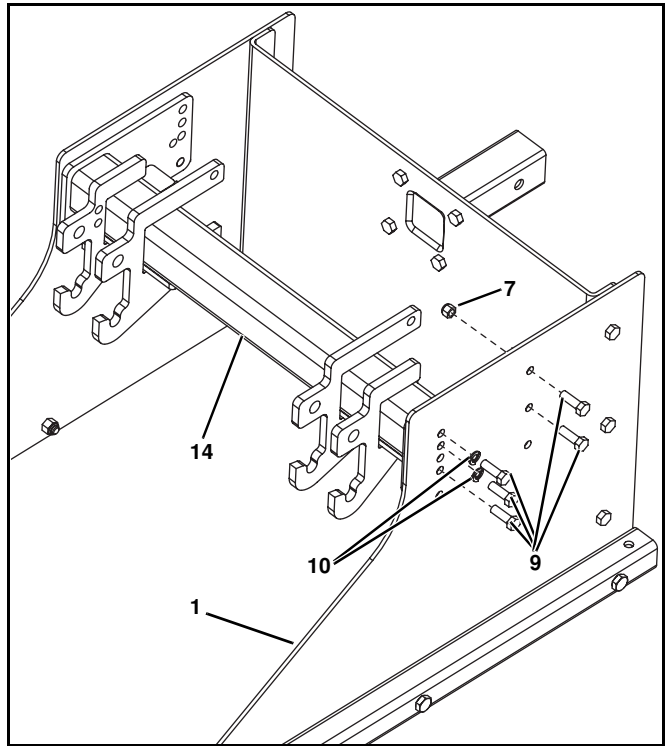
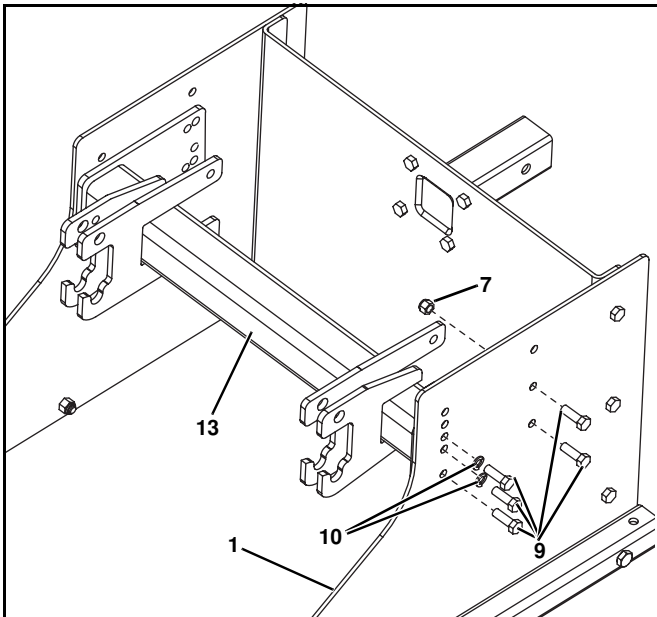

Figure 7 (29 Series Shown)
Figure 6 (26 Series Shown)
1. Bolt on VCM 99100892 (26 Series) (#13) (See Figure 6.), or the VCM 99100890 (29 Series) (#14) to the stand plates (#1). (See Figure 7.): Use (10) 1/2"-13 x 1-1/2" cap head screws (#9) and (6) 1/2"-13 nylock nuts (#7) provided to bolt the VCM. Use (2) 1/2" lock washers (#10) with (2) cap head screws on each side at locations shown.